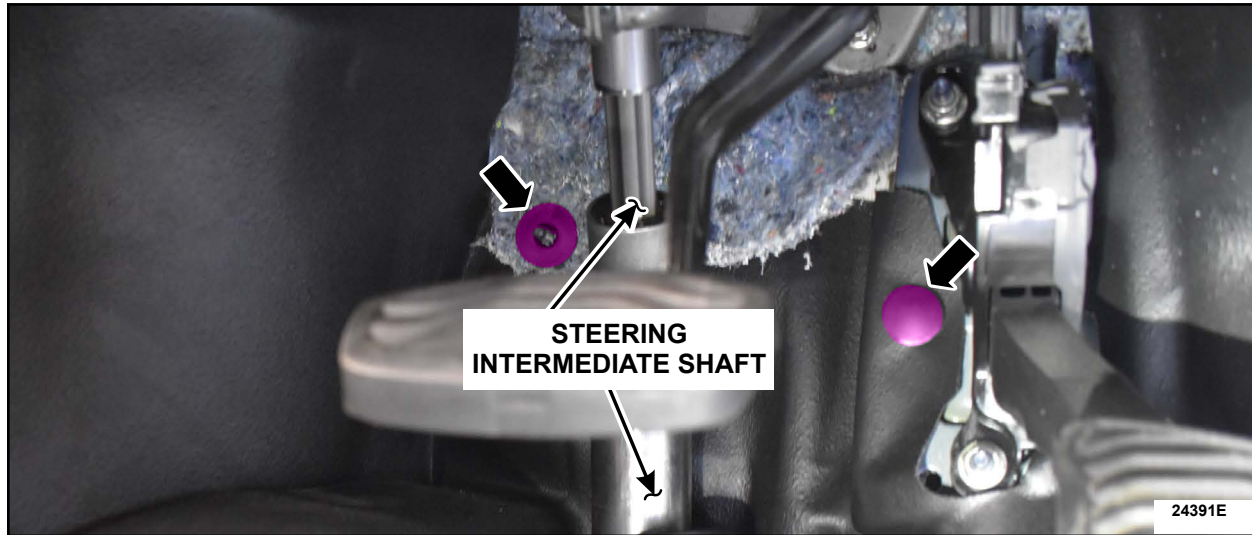

FIGURE 27
19. Install the two (2) retainers holding the rubber flooring to the dash panel. See Figure 27.